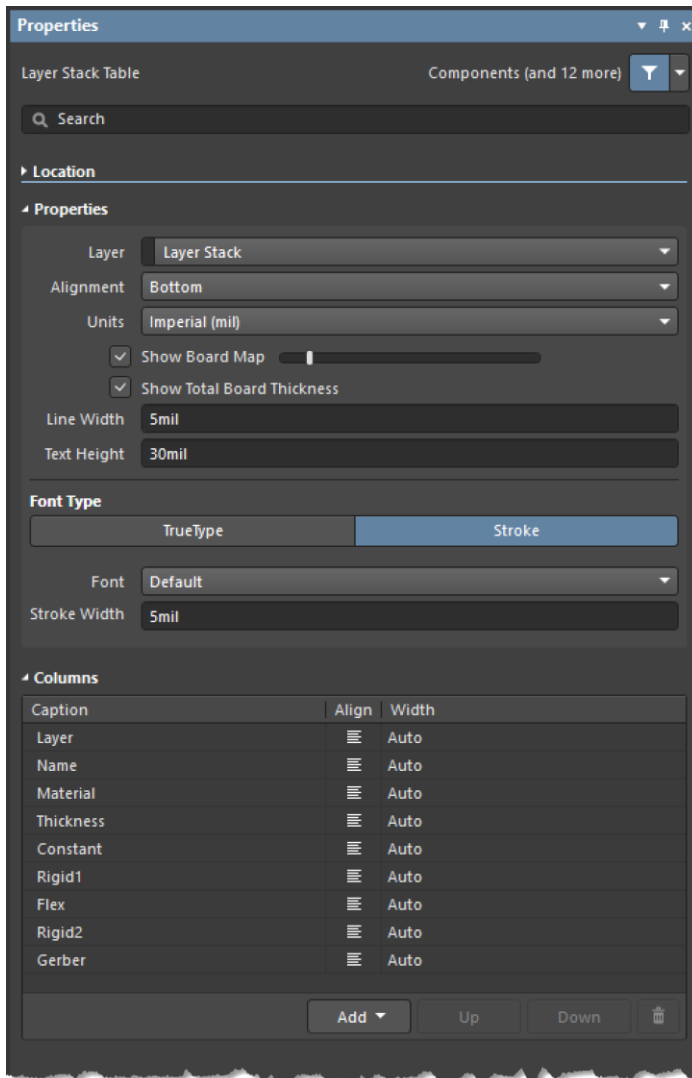

Figure 8. Modifying the Layer Stack Table
- 18. Next, we will place the Layer Stack Table (see Figure 8 as a reference).
- b) Press the **Tab** key to modify the Table parameters in the *Properties* panel as shown in Figure 8.